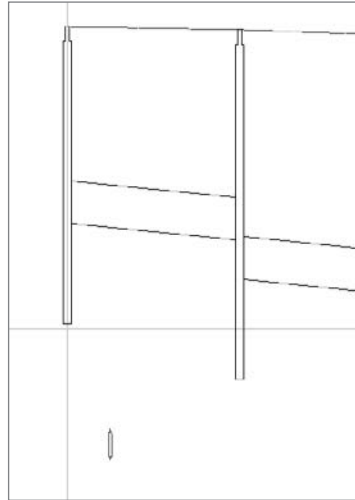

Figure 13.24
20. Zoom in on the Alignment - (Storm Drainage Network) profile view to see the crossing pipe, as shown in Figure 13.24.